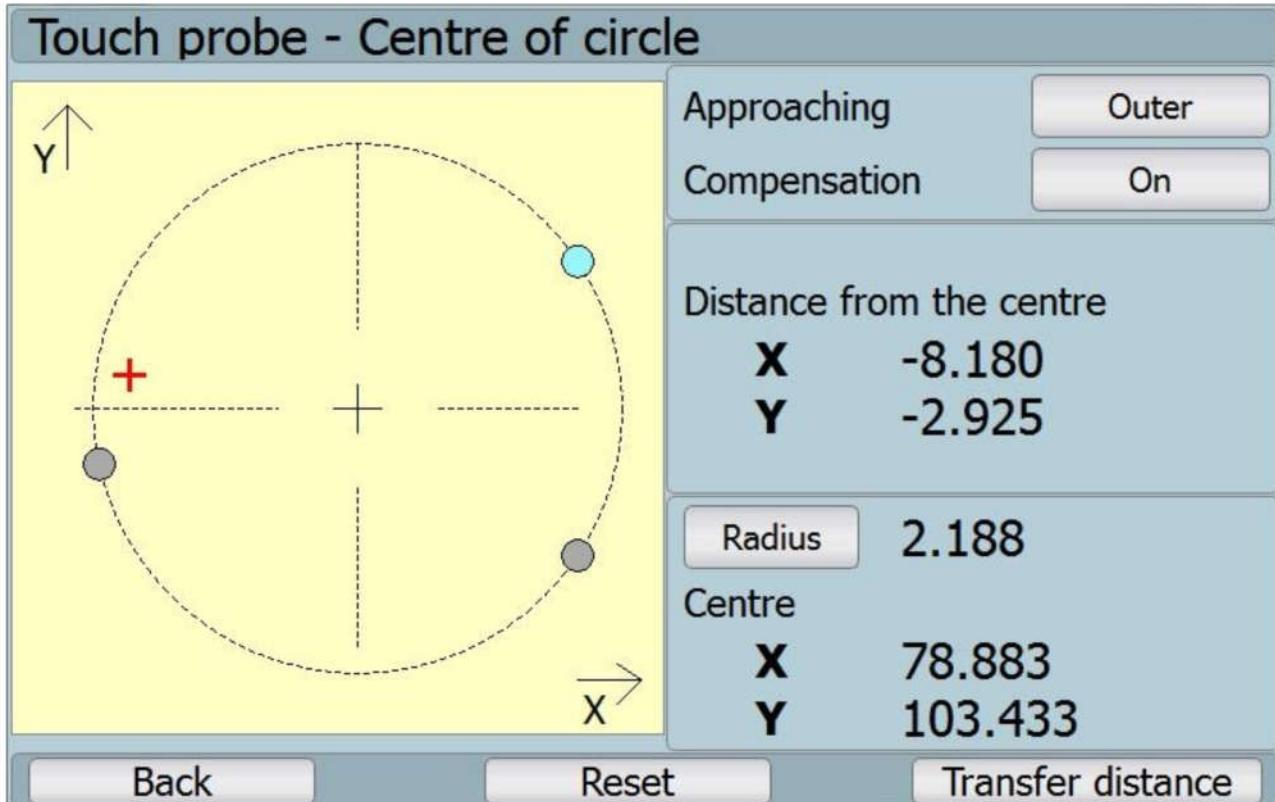

Fig. 47: Touch probe – circle centre – found centre
- ⑩ After reaching the second and third required coordinate with the probe and confirming the coordinates, the found circle is drawn with the centre (see fig. 47: Touch probe – circle centre – found centre).
- ⑩ It displays the radius (diameter) value of circle, the coordinates of the found centre, and it displays data on the circle centre distance from the touch probe coordinates.
- ⑩ The diameter value can be switched with buttons „**Polomer/Prumer**“ (diameter/ radius) for the defined circle.
- ⑩ Button „**Vnejsi/Vnitri**“ (external/ internal) is used for the diameter value treatment according to the way we moved the touch probe on individual circle coordinates. They can be from external or internal side.
- ⑩ Button „**Zapnuto/Vypnuto**“ (on/off) for the compensation edits values of the centre coordinates as per the defined compensation received during the calibration of the touch probe on the circle (see chapter **Chyba! Záložka není definována.**).
- ⑩ Button „**Reset**“ sets everything into the initial setting.
- ⑩ Button „**Prenest stred**“ (transfer centre) transfers the coordinates of the defined axis centre.